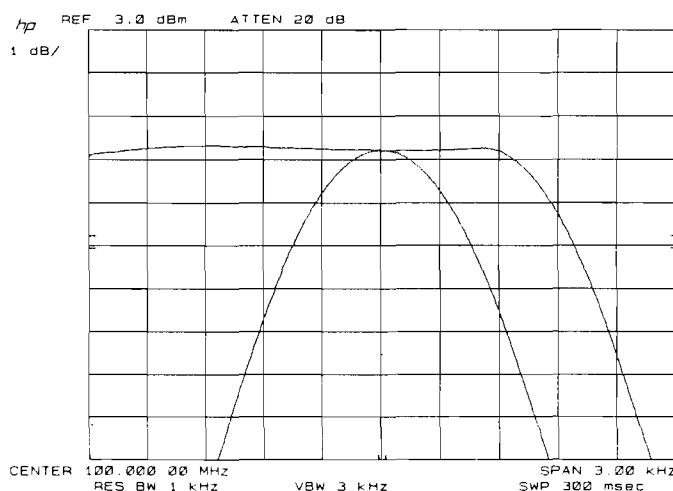

Figure 3-66. Typical Tuning Range of A7A2 100 MHz VCXO
6. Adjust A7A2C4 100 MHz slowly through its full range while monitoring the display of the second spectrum analyzer. A7A2C4 100 MHz should provide enough adjustment range to shift the frequency of the 100 MHz VCXO a minimum of ± 300 Hz from 100 MHz (99.999700 MHz to 100.000300 MHz), and the output power should not vary by more than 1 dB within this range, as shown in Figure 3-66.